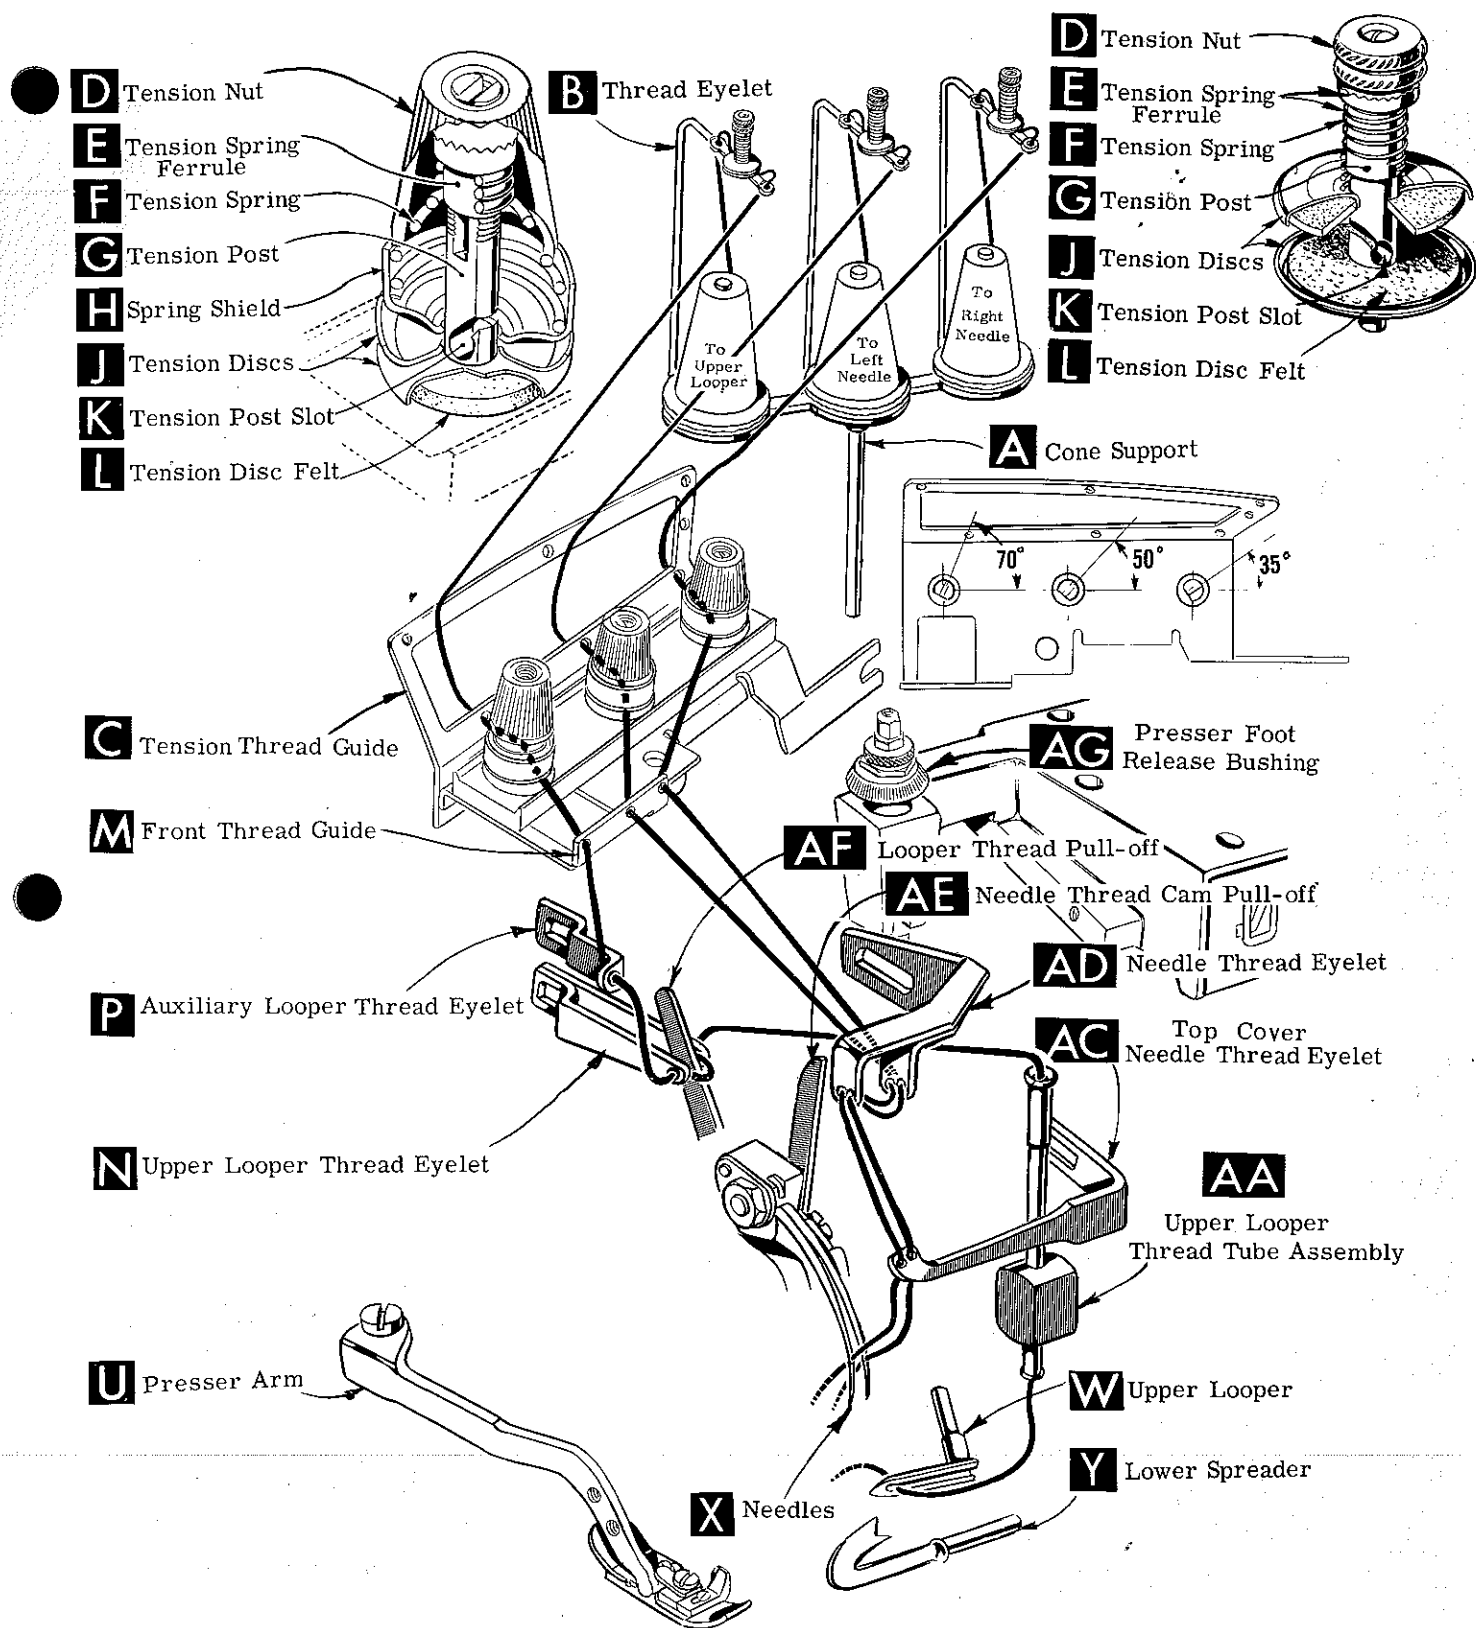

Fig. 1A
Thread the right needle thread through the right eyelet of front thread guide (M, Fig. 1A) and thread the left needle thread through the middle eyelet of front thread guide. Then turn handwheel in operating direction until needles (X) are at their highest position. Insert both needle threads from right to left, through BOTH eyes of needle thread eyelet (AD), under neck of top cover casting and then down through holes in top cover needle thread eyelet (AC). The right needle thread should be threaded in the right hole and the left needle thread through the left hole of the top cover needle thread eyelet. Thread needles from the front.